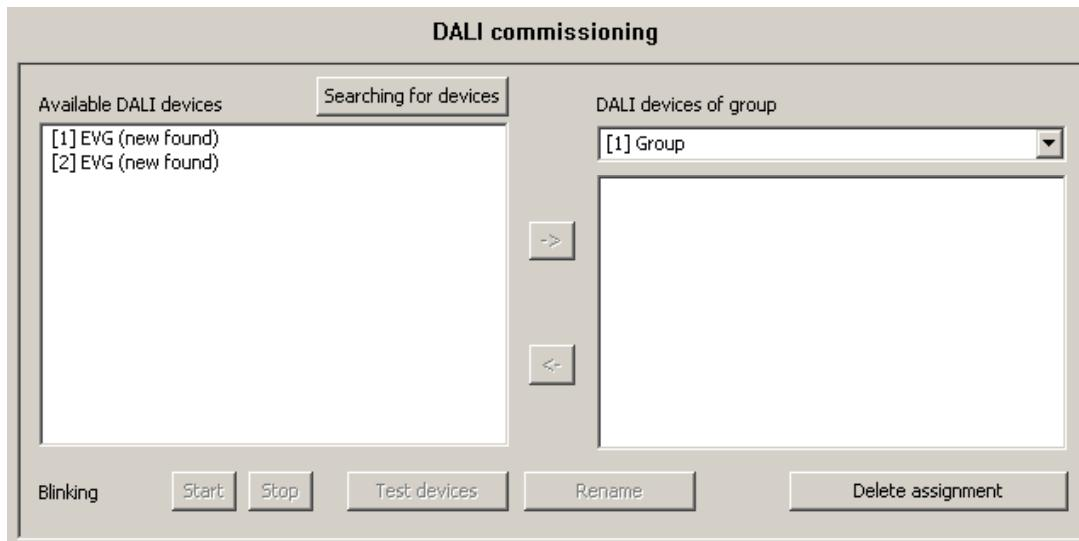

Figure 38: Assigning a name to identified devices
A dialogue box will open for renaming the device. Names cannot have more than 28 characters. The name may include alphanumerical as well as special characters. It is recommended to assign a unique name to each device (e.g. "Light 1 Window South", "Light 2 Window South", "Light 1 Office Middle" etc. / cf. figure 38 on the following page).
- The short addresses of the identified devices are assigned randomly. Several test functions available in the plug-in can be used to detect during the name assignment which device is actually identified in the list entry. The "Start", "Stop", and "Test devices" buttons running the test functions are found in the lower margin of the commissioning environment (cf. figure 38). The devices to be tested have to be selected in the left partition first.